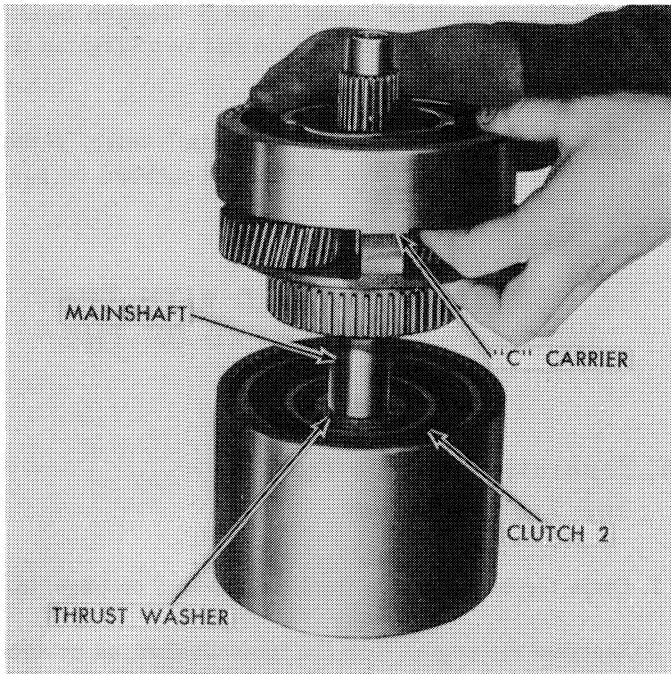

Figure 60
27. Insert the "C" sun gear to "C" carrier thrust washer into the "C" carrier so it is positioned beneath the pinions. Install the "C" carrier over the end of the mainshaft, as shown in Figure 60. Align the "C" carrier splines with the clutch pack, rotating the carrier back and forth until it drops down into the clutch pack.